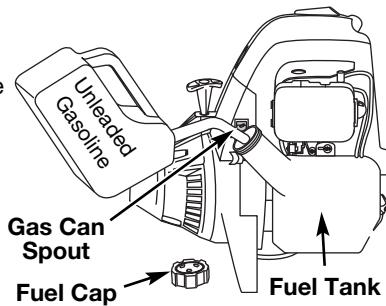
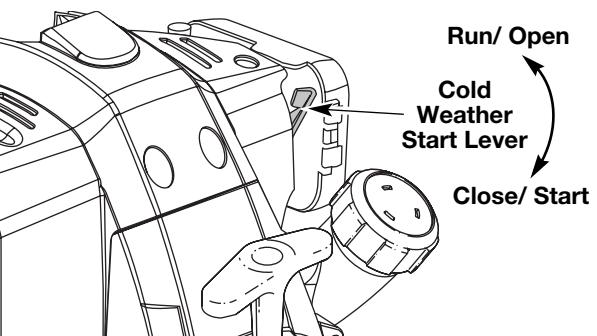

Fig. 7
Fig. 9
- Use the blower to clean around buildings, walls, and fences (Figs. 7 & 8), and around trees, shrubs, and flower beds (Fig. 9).
1. Remove the fuel cap (Fig. 7).
2. Place the gas container's spout into the fill hole on the fuel tank (Fig. 7) and fill the tank.
**IF COLD...** For cold weather conditions (below 40°F), flip the Cold Weather Start Lever (Fig. 9) down to the start/closed position and continue to step 4. DO NOT flip this lever down if the temperature is above 40°F.